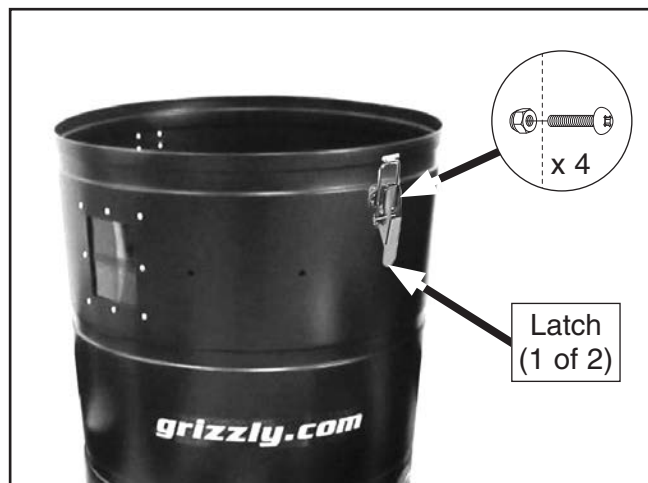

Figure 13. Latches installed on collection drum.
16. Install (2) collection drum latches with (8) M4-.7 x 8 Phillips head screws and (8) M4-.7 lock nuts (see **Figure 13**).